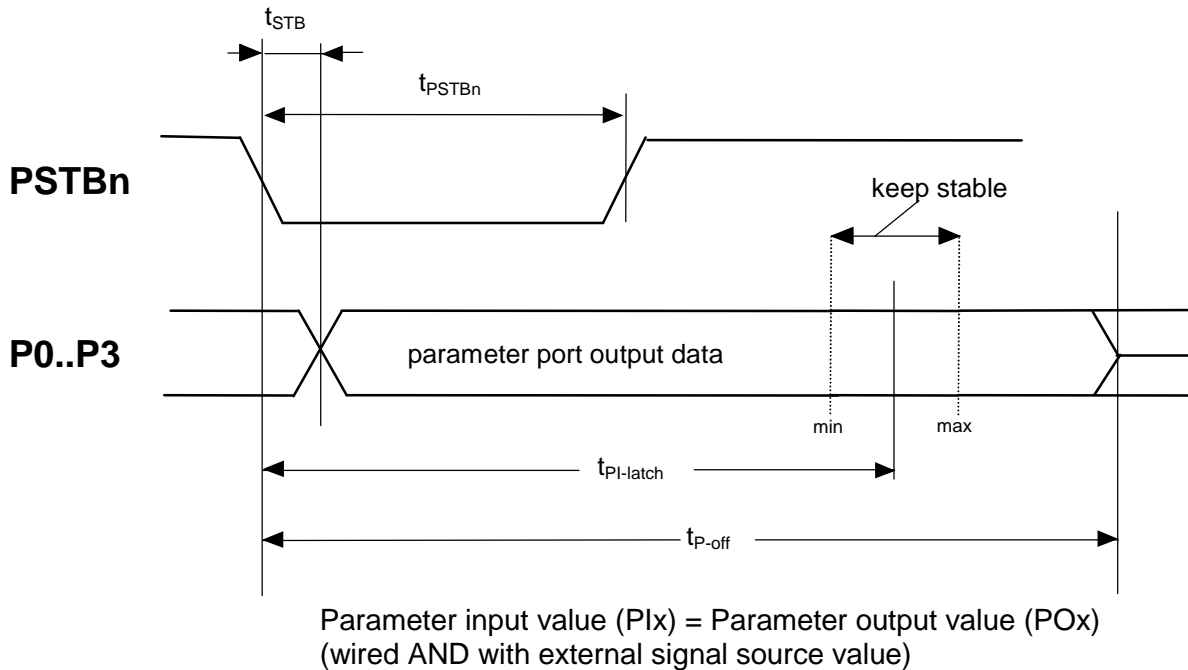
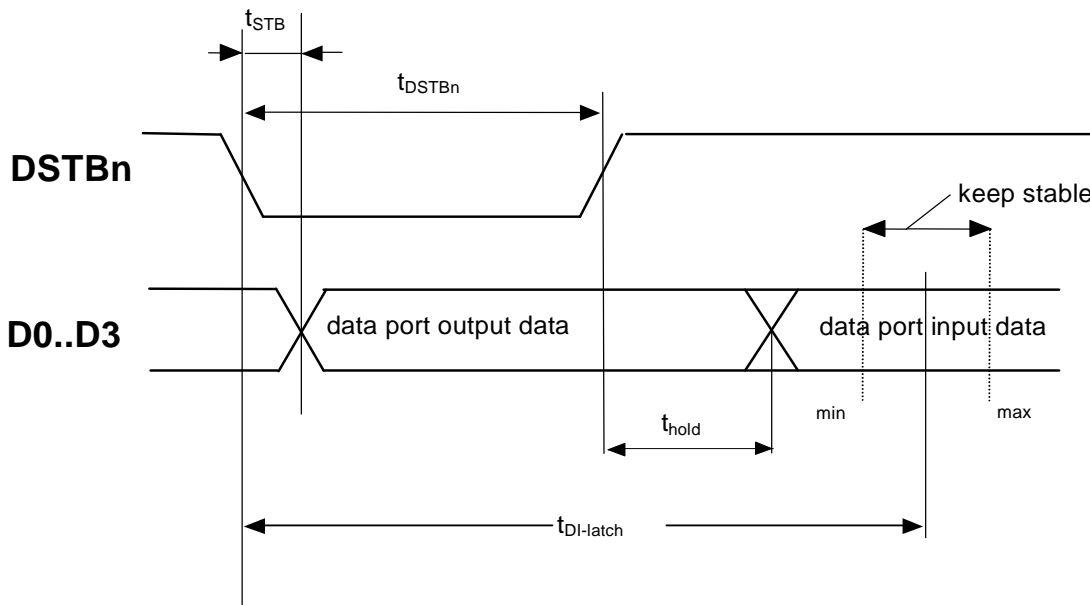

Figure 6: Timing Diagram Parameter Port P0 ... P3, PSTBn
Figure 7: Timing diagram data port D0 ... D3 and DSTBn
The availability of new parameter output data is signaled by the Parameter Strobe (PSTBn) signal as shown in Figure 6.
The availability of new output data is signaled by the Data Strobe (DSTBn) signal as shown in Figure 7. The DSTBn pin has an additional reset input function, which is described further in chapter 4.13 IC Reset. Any IC reset turns the Data Output Register to 0xF and forces the data output drivers to high impedance state. Simultaneously, a Data Strobe is generated, having the same t_{setup} timing and t_{DSTBn} pulse width, as new output data would be driven.
Running in Synchronous Mode, the SAP5 generates the Data Strobe (DSTBn) signal as well, whereas the timing of input sampling and output buffering exactly corresponds to the regular operation (refer to Figure 7 and Table 21).
- It generates Data and Parameter Strobe signals at the DSTBn an PSTBn pins with timing according to Figure 6 and Figure 7.
- **I/O:** bi-directional port with timing according to Figure 6 and Figure 7